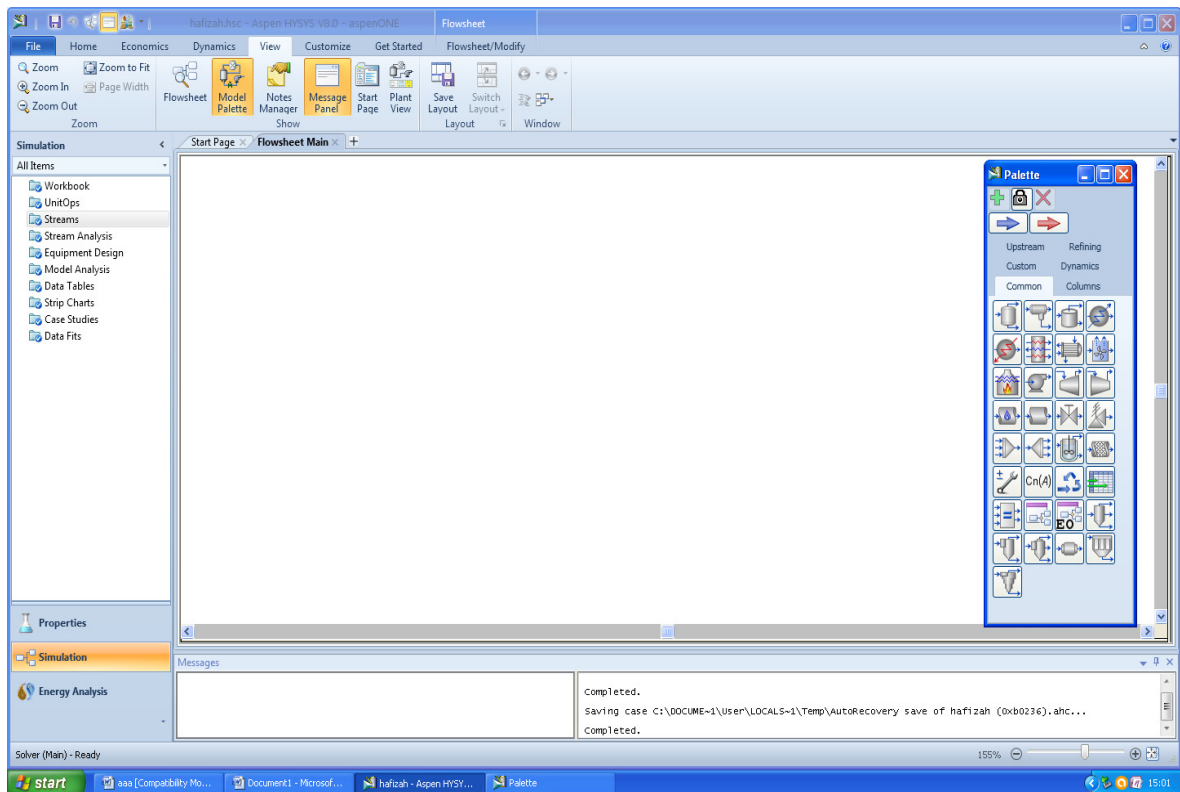

Figure 6: Simulation environment
5.2 You should see this screen appear (figure 6).